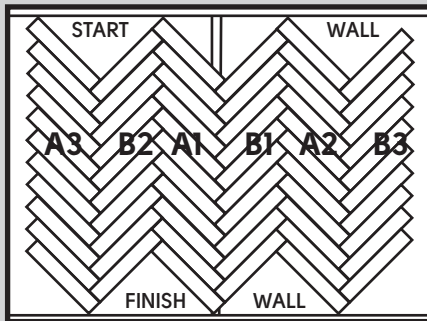

Fig 8.
9. Continue with all B planks and repeat on the other side of the original "B" planks with "A" planks. Complete the room repeating the same method making sure to keep the expansion spacers in place and the pattern square (Fig 8.).